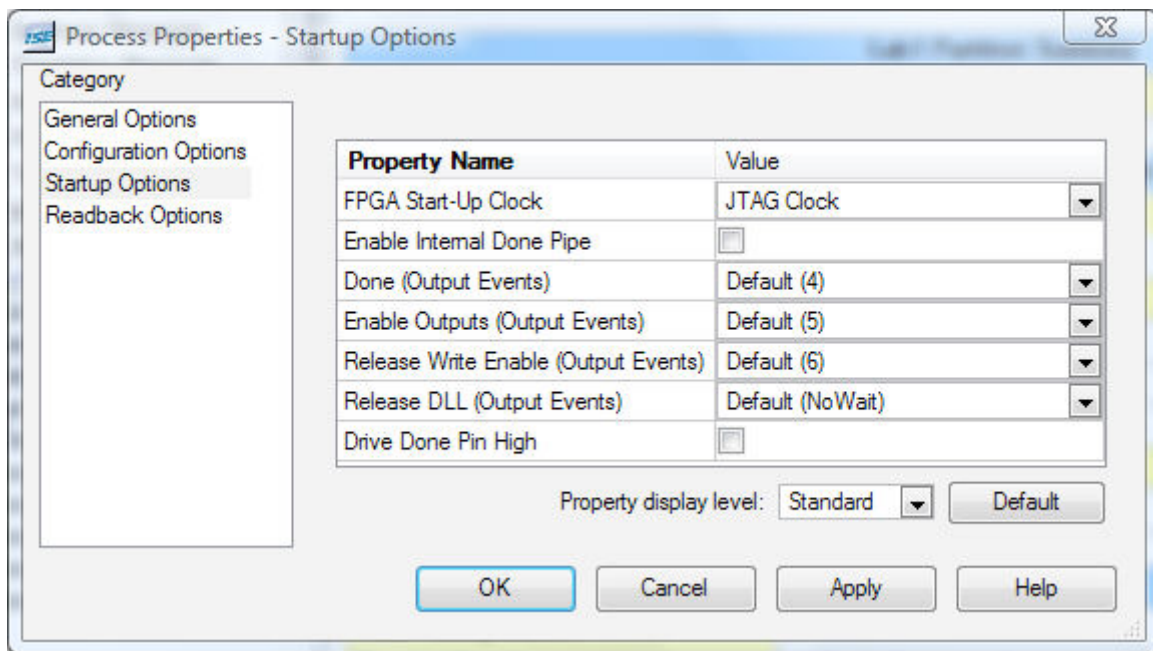

Figure 16. Options in Process Properties
- Right click **Generate Programming File → Properties**, on **Startup Options** panel select **JTAG Clock** for the **FPGA Start-Up Clock**. This is shown in Figure 16. Then click OK.